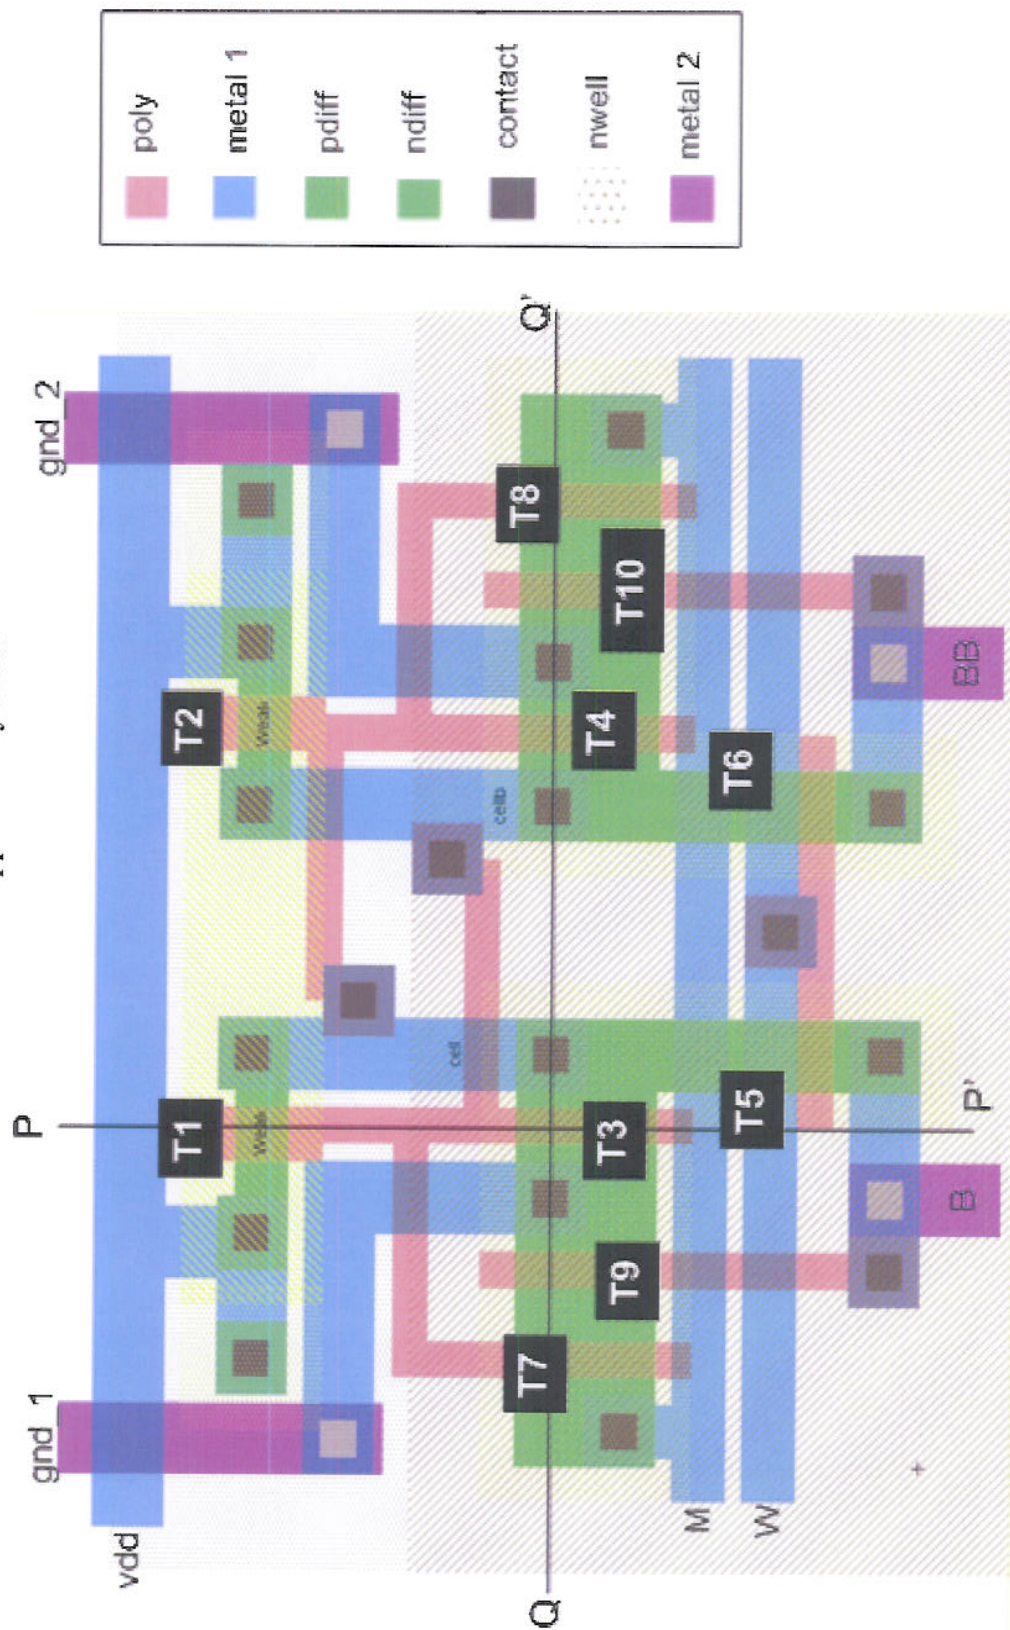

Figure 1.1 Layout of full-custom cell for Question 1
1. a) *Figure 1.1* (see the colour supplementary sheet) shows the layout of an n-well CMOS circuit *P* with four terminals: M, W, B and BB. Extract and draw the transistor-level schematic diagram of this circuit. Note that the supply signals are labelled as vdd, gnd_1 and gnd_2.
- d) For the layout shown in *Figure 1.1*, draw the vertical cross section along the lines PP' and QQ'. Label your diagram indicating the n-well region and the different types and levels of doping (e.g. p⁻, n⁺ etc).